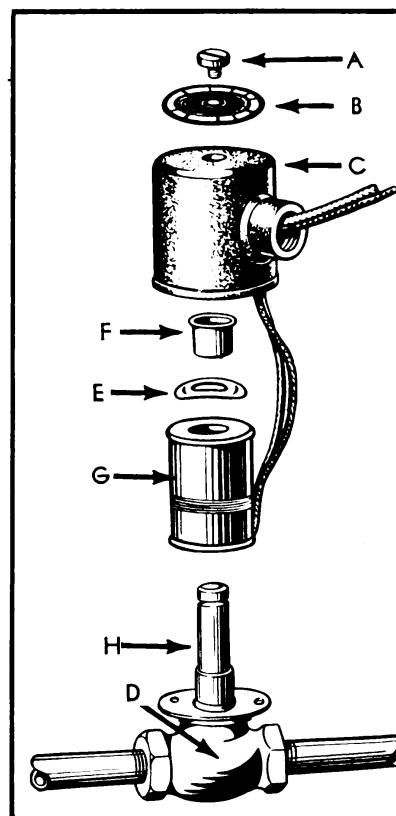

FIG. 38 Replacing Solenoid Valve Coil
(1) Disassembly
Stop engine and disconnect wiring to solenoid valve at generator terminal box and manual switch. Unfasten flexible tubing and remove squeeze connector from coil housing. Remove screw (A) and nameplate (B) from coil housing (C). (See Fig. 38). Housing can then be lifted off of valve body (D). With a screwdriver, pry off steel washer (E) and bushing (F) that secures coil (G) to plunger guide tube. The coil can now be removed and a new coil inserted.
(2) Reassembly